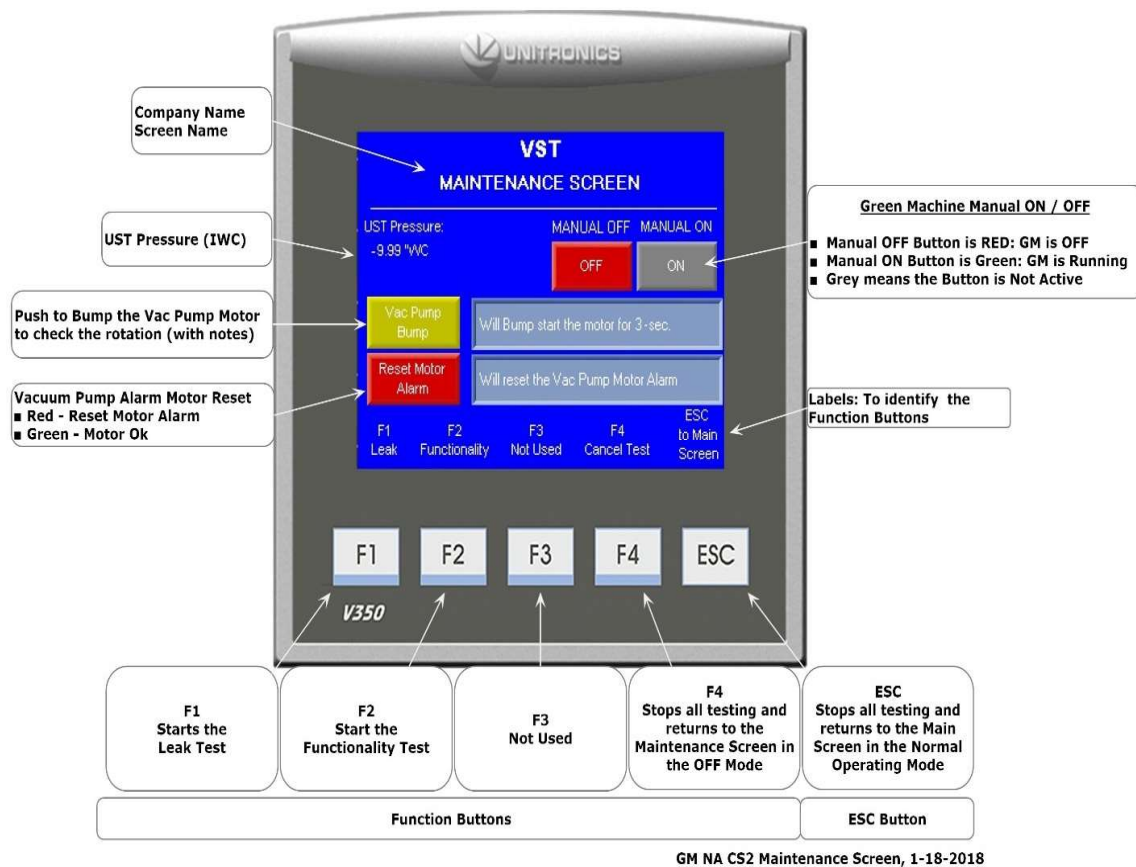

Figure 6-3: Maintenance Screen
1. Make sure the Maintenance Screen is showing on the PLC. **See Figure 6-3.** (The GREEN MACHINE is now in the Manual OFF mode and will not operate.)
1. At the Maintenance Screen, push the Vac Pump Bump button to go to the Bump Motor Confirmation Screen. **See Figure 6-3.**